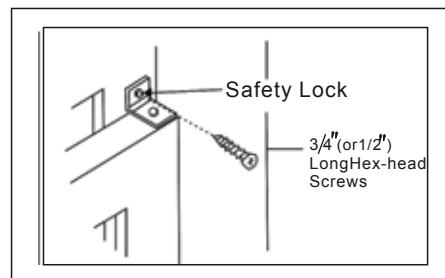

Fig. 17
2. Attach right angle safety lock as shown. (See Fig. 17.)